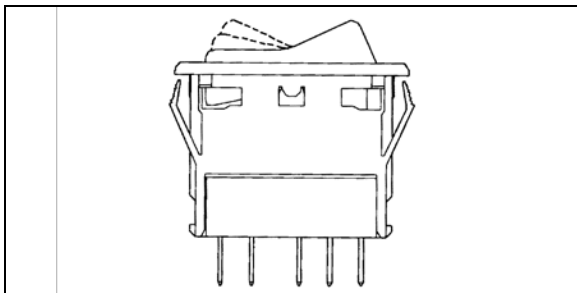

FIGURE 33: SWITCH
4. Lift the hinged cover and replace the two retaining screws (Fig. 33).